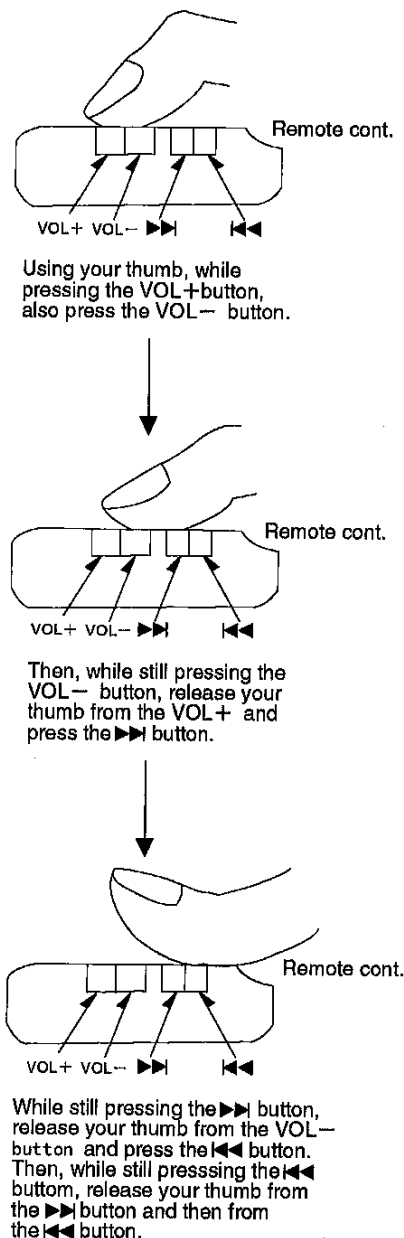

Fig.7
- c. While still pressing the **▶▶▶** button, release your thumb from the VOL- button and press the **◀◀◀** button. Then, while still pressing the **◀◀◀** button, release your thumb from the **▶▶▶** button and then from the **◀◀◀** button. (a-c are shown in Fig.7)